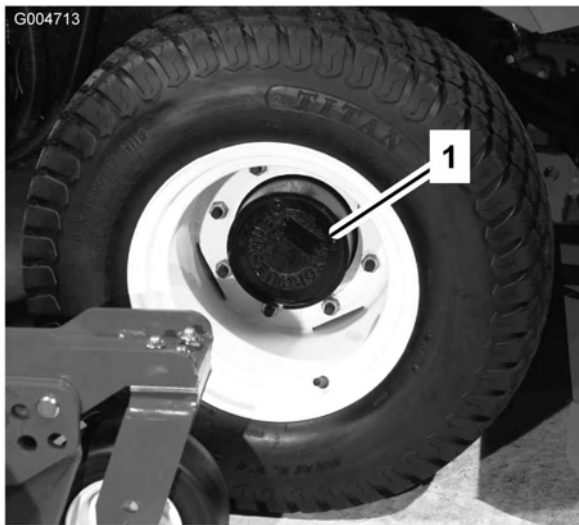

Figure 56
1. With the machine on a level surface, position the wheel so that the check/drain plug (Figure 56) is at the lowest position.